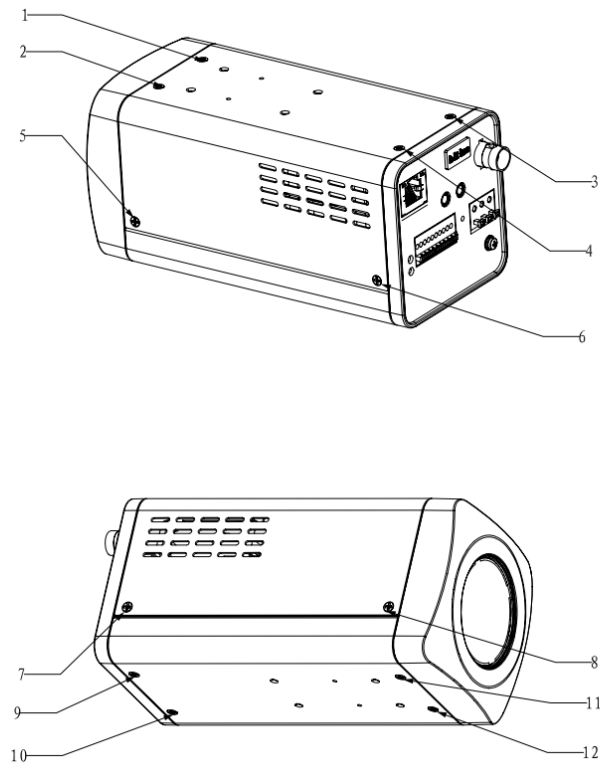

Figure 3-5
- a) Refer to Figure 3-5 to remove the screws.